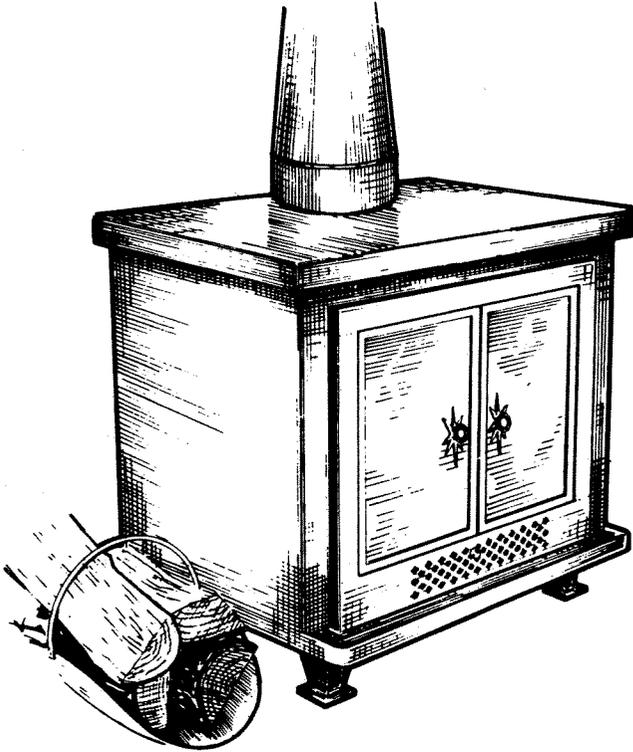

Fig. 41. Colony Classic freestanding fireplace/stove.
7. **Contractor Equipment Manufacturers Inc.** (manufacturer), P.O. Box 290, Ashland, OH 44805. The Colony Classic (Fig. 41 and Table 5) has tempered glass doors, heavy steel grate, and ½-inch air space between double walls.